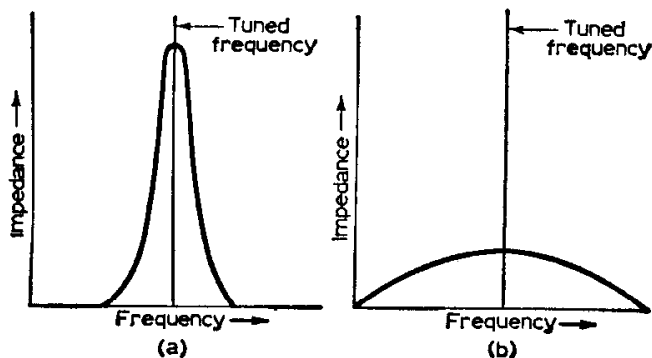

Fig. 3: The response curve at (a) implies little damping, while that at (b) is obtained only by heavy damping.
Just how high the dynamic impedance rises at resonance is governed essentially by the losses of the circuit which can be represented by resistance in series with the coil and in parallel with the capacitor (C). Relative dynamic impedances for a low-loss circuit and a lossy circuit respectively are given at (a) and (b) in Fig. 3. The higher the dynamic impedance, the greater will be the signal voltage developed across the circuit. The curves
in Fig. 3 show that a low-loss circuit (high dynamic impedance) has a very peaky response, while a circuit with a greater loss characteristic produces a response having a wider frequency
where R_d is the dynamic impedance in kilohms and C is in pF. This shows that the lower the dynamic impedance (sometimes called dynamic resistance), the wider the bandwidth. Thus, (a) in Fig. 3 would derive from a circuit with a high dynamic impedance and (b) from a low dynamic impedance.